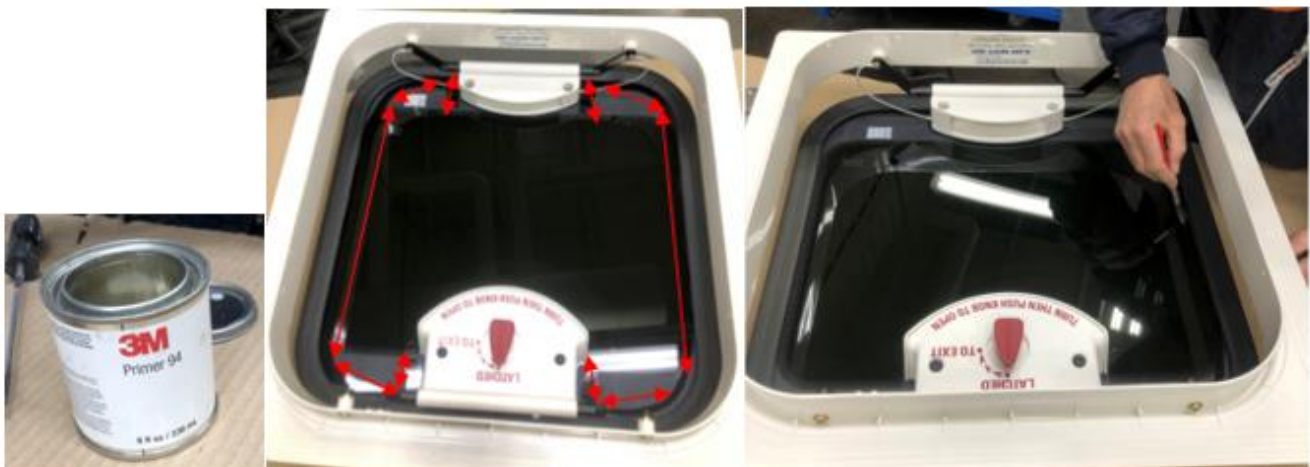

Figure 3: Apply #94 Primer - PN 356274 on the interior side of the glass panel, as denoted by the arrows.
5. Apply a thin, uniform coating of #94 PRIMER – PN 356274 (use brush) to the outer edges of the bonding surface (interior side) as illustrated by Figure 3. **Do not apply primer around the white hinges as this will entrap any air under the tint film.** Allow primer to flash-off (typically 5 minutes at room temperature) before applying the tint film.